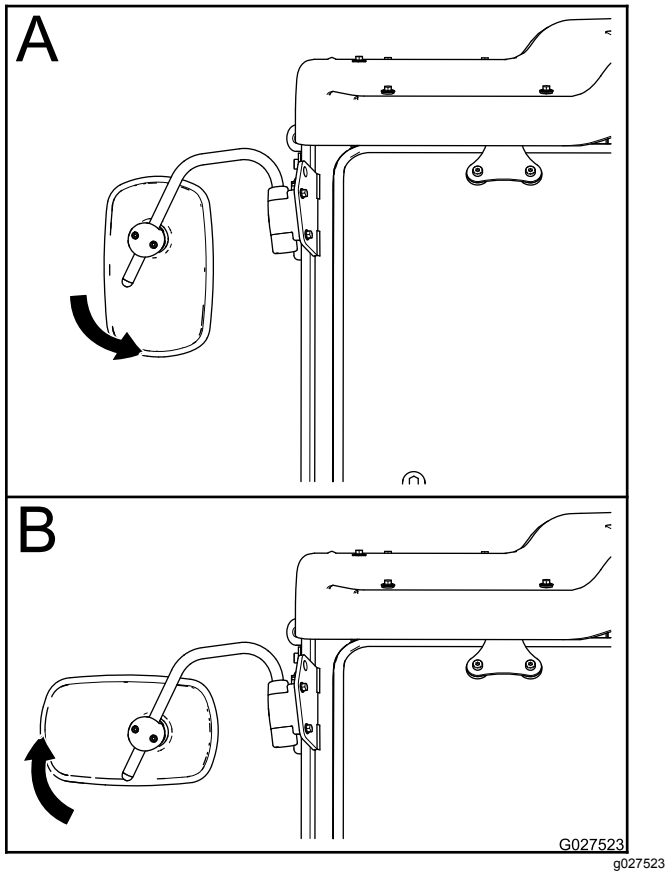

Figure 6
1. Use 2 hands to rotate the mirror clockwise or counterclockwise on its ball mount (Figure 6).